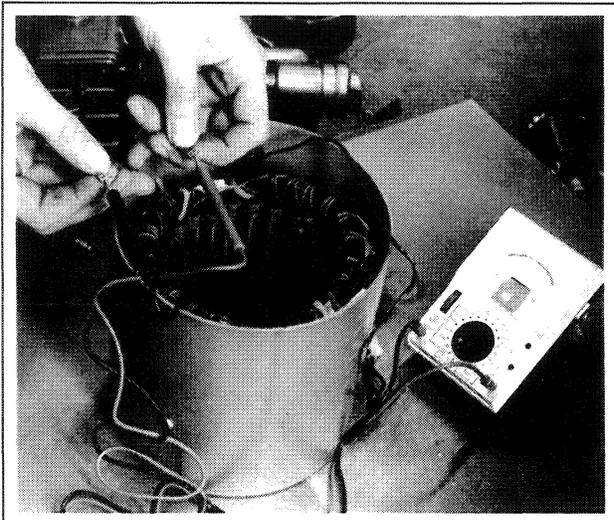

Figure 2-9. Checking Stator Continuity
1. To check stator continuity, set ohmmeter on 1 ohm ($1 \times \Omega$) scale. Figure 2-9. Contact red and black meter leads; adjust meter to zero ohms. Check stator continuity, contacting meter leads to stator leads.